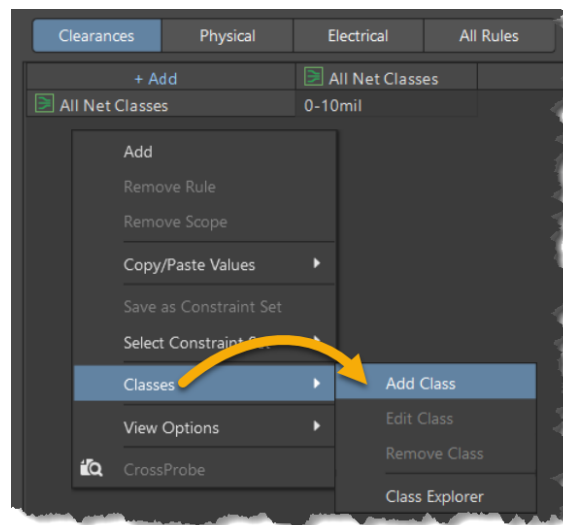

Figure 4. Add New Class
17. Do a right-click, select the command **Classes » Add Class**. The *Add Classes* dialog will appear, Figure 4.